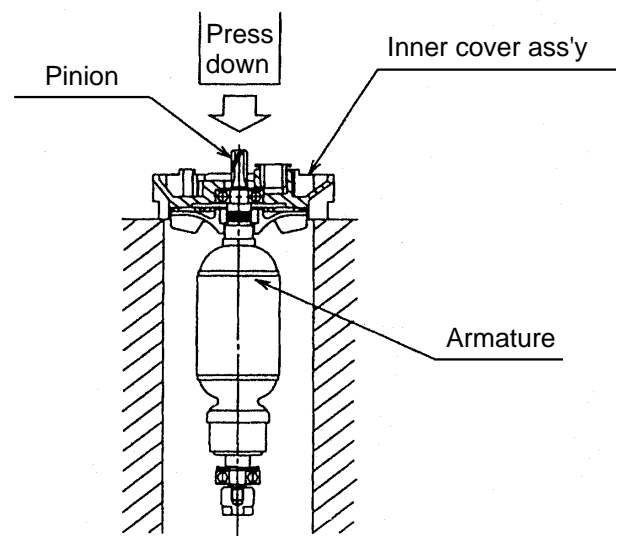

Fig. 1
- (1) Loosen the Tapping Screw (W/SP. Washer) D5 x 55 **[8]** on the Gear Cover **[9]** and remove the gear cover section from the Inner Cover Ass'y **[13]**. Remove the Armature **[28]** together with the Inner Cover Ass'y **[13]** from the Housing Ass'y **[35]**.
- (2) Remove the Armature **[28]** from the Inner Cover Ass'y **[13]**. Place the Inner Cover Ass'y **[13]** on a cylindrical jig and press down on the pinion of the Armature **[28]** as shown in Fig. 1.
- (3) Loosen the Machine Screw (W/Washer) M3.5 x 6 **[52]** on the trigger switch and the Tapping Screw (W/SP. Washer) D5 x 55 **[8]**. Disconnect the internal wire from the Brush Terminal **[32]** and the Controller **[51]**. Tap the end surface of the housing with a wooden or plastic hammer lightly to remove the Stator Ass'y **[31]**.